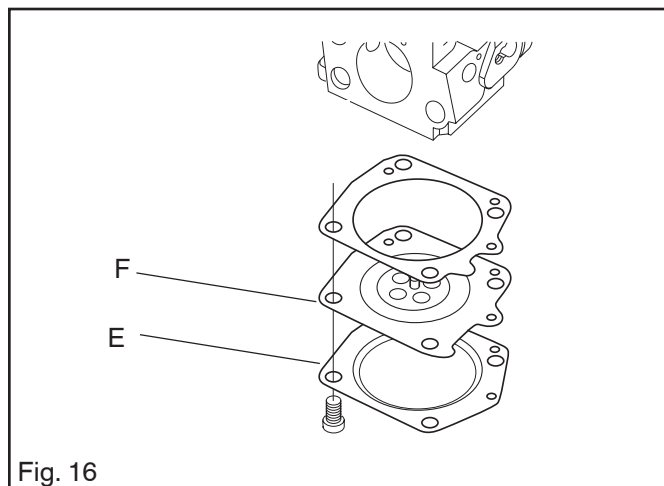

Fig. 16
7. Fit the control diaphragm (F) with packing and cover (E) on the metering unit. See fig. 16.